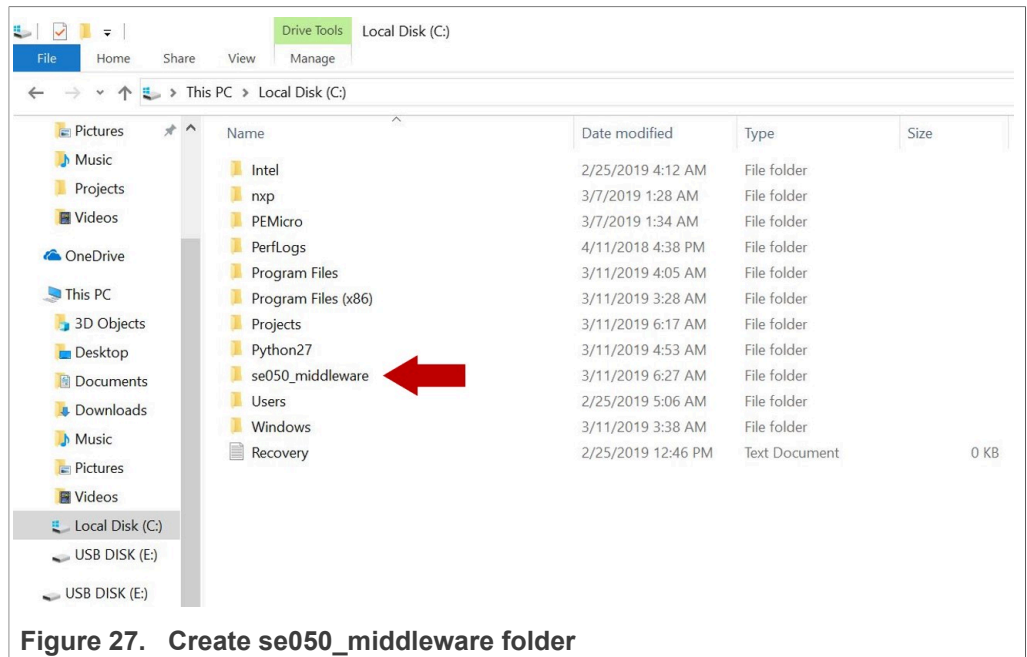

Figure 27. Create se050\_middleware folder
2. Create a folder called **se050\_middleware** in C: directory as shown in Figure 27: